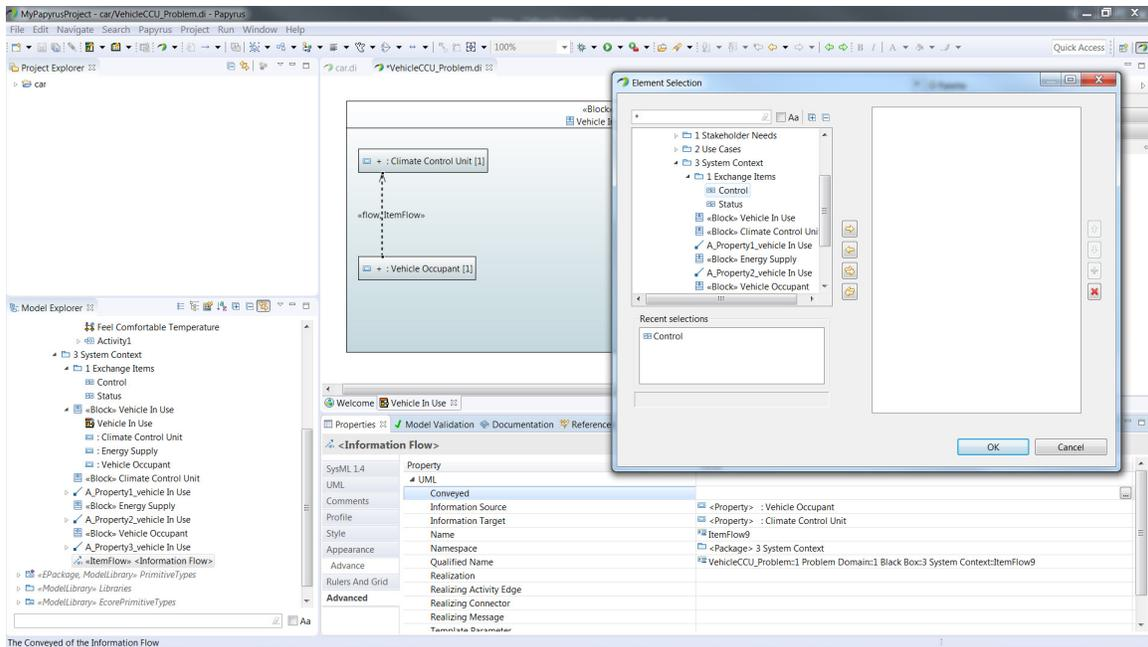

Figure 67: Conveying the Control Signal
6. Ensure that the item flow that you just created is selected and in the **Properties** window at the bottom of the screen select the **Advanced** tab. Double-click in the value cell of the **Conveyed** property to open the **Element Selection** window. Expand the packages until you see the *1 Exchange Items* package created earlier. Double-click on the *Control* signal in this package and then click **OK** (figure 67).